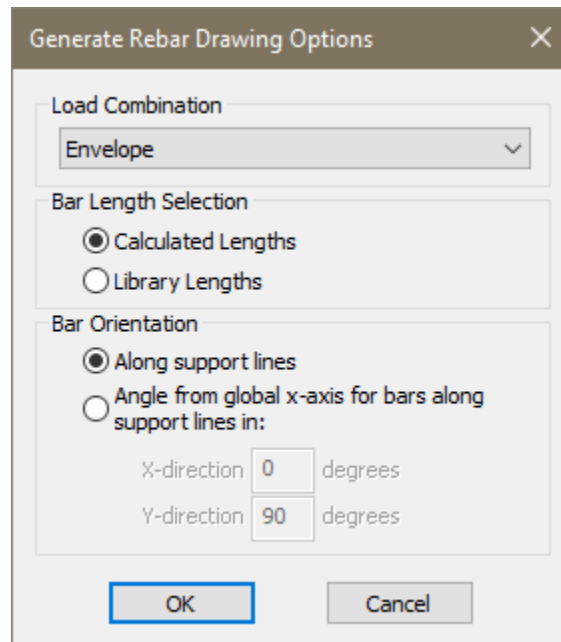

Figure 7-25
- Go to *Floor Design* → *Rebar* and click on the *Calculated Rebar Plan*  icon this will bring up the *Generate Rebar Drawing Options* window shown in **FIGURE 7-25**.